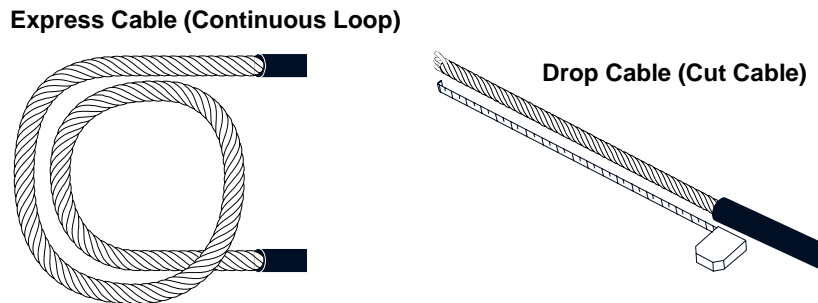

Figure 1
1. Remove sheaths as per manufacturer's instructions (Figure 1) and refer to Table C for express and drop cable minimum sheath removal lengths.